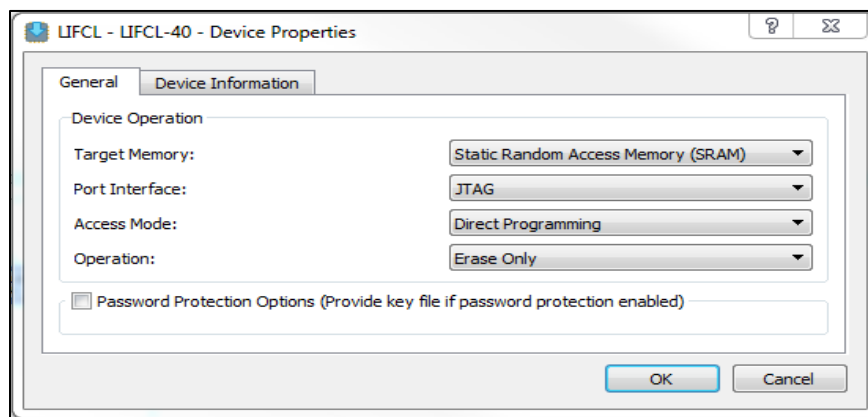

Figure 4.5. Lattice Radiant Programmer – Device Operation
- Select **JTAG** for **Port Interface**, **Direct Programming** for Access Mode, and **Erase Only** for Operation, as shown in Figure 4.5.